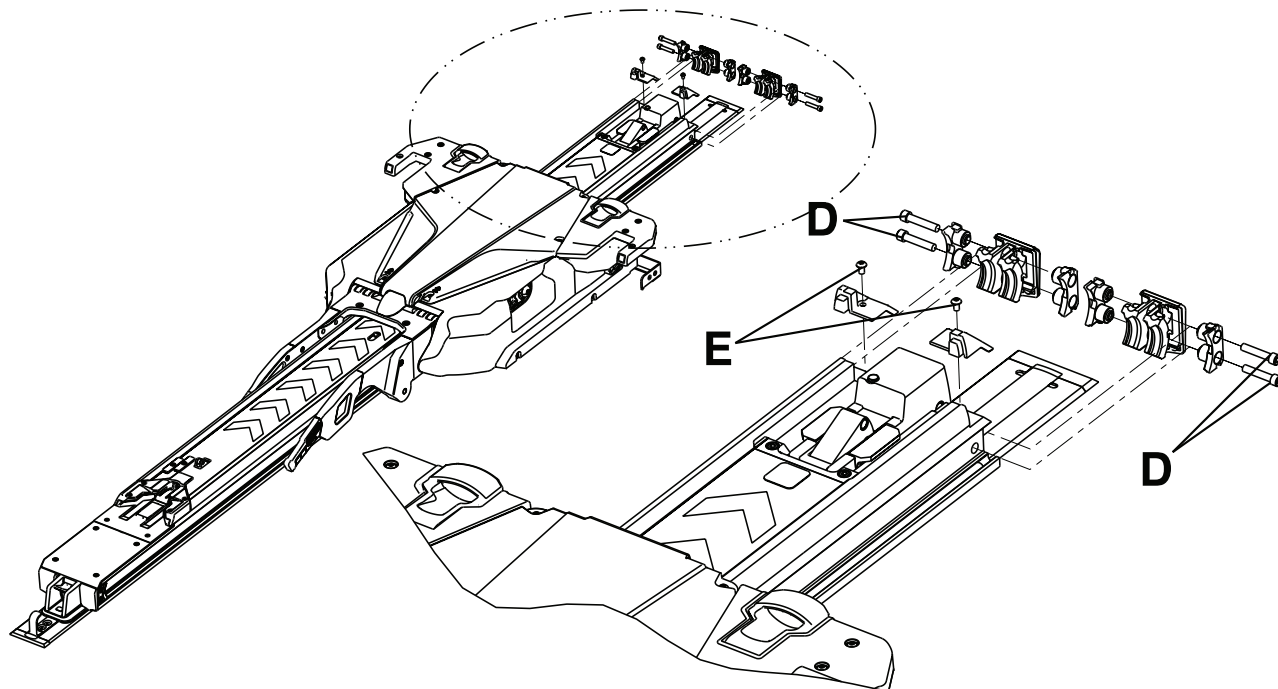

Figure 4: Trolley screws
- Using a T25 Torx driver, remove the two screws that secure the transfer trim (E) (Figure 4 on page 39).
- Using a 3/16" hex wrench, loosen (do not remove) the four socket head cap screws (two on each side) (D) that secure the dead stops to the transfer assembly (Figure 4 on page 39).